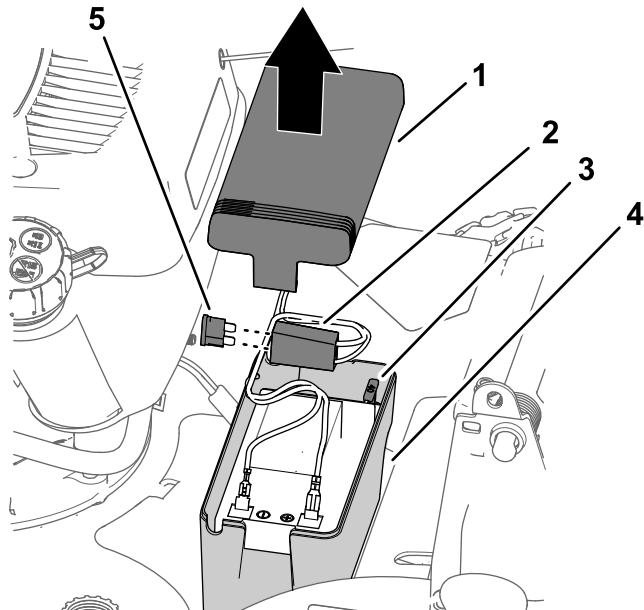

Figure 31
1. Remove the cover from the battery compartment (Figure 31).
2. Pull out the battery and locate the fuse (Figure 31).
3. Replace the fuse in the fuse holder (Figure 31).
4. Install the cover over the battery compartment (Figure 31).